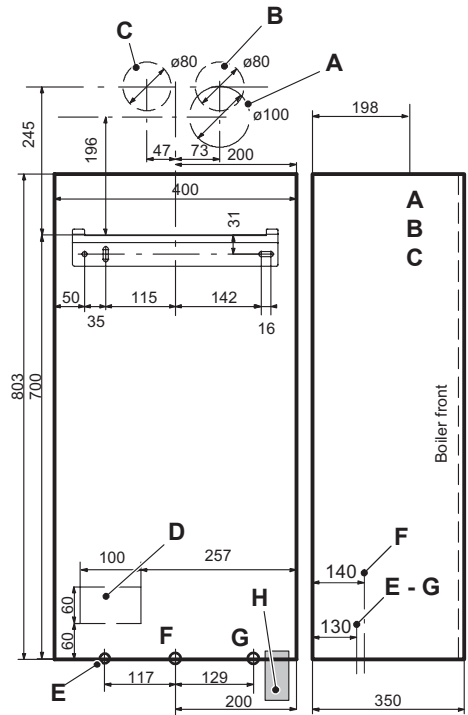

Fig. 6.2
- Fix the C.H. valves "A" to position "E" and "G" (Fig. 6.2) using the 3/4" gaskets.
- Fix the gas cock "B" to position "F" (Fig. 6.2) using the 3/4" gasket.